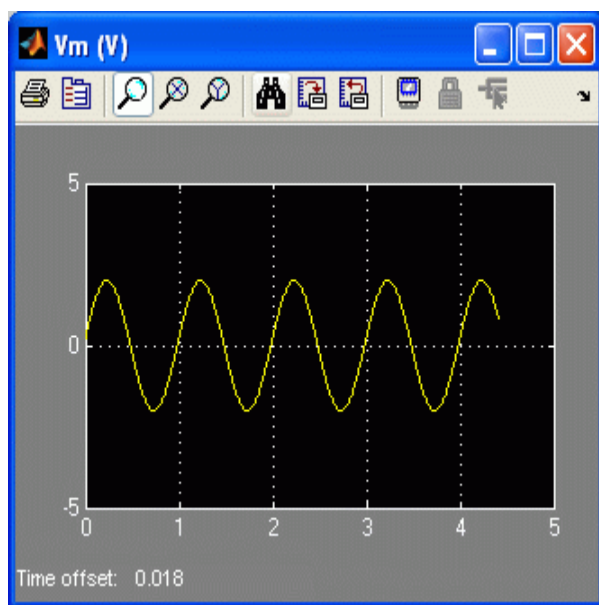

Figure 8: Input motor voltage scope.
10. Set the *Offset (V)* block to 0 V.
11. Set the *Amplitude (V)* slider gain to 2.0 V.
12. The SRV02 unit should begin rotating smoothly back and forth and the scopes should be reading a response similar to as shown in figures 8 and 9.